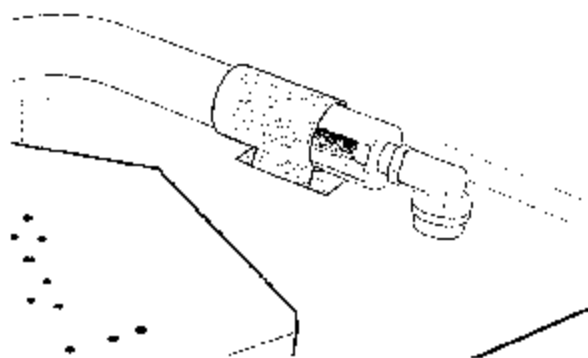

Figure 33. Adjust Air Shutter as appropriate. Fully open position is shown here. Slide shutter forward to close.
6. **Adjust the Air Shutter:** See fig. 33.